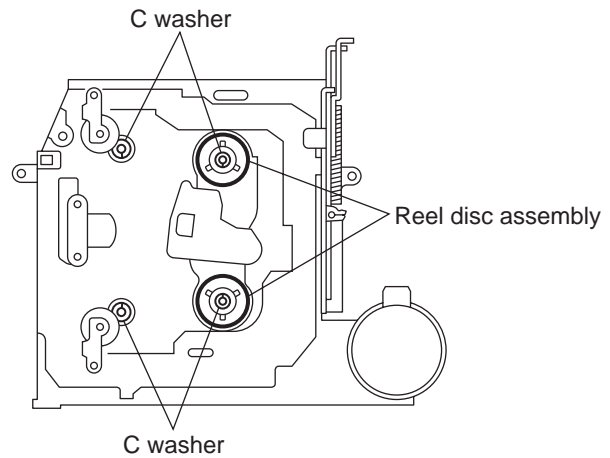

Fig.4
3.2.7 Removing the reel disc assembly (See Fig.4)